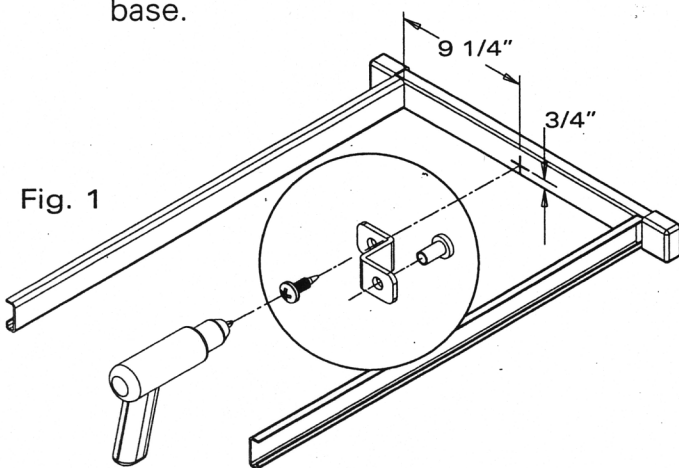

Fig. 1
- 2) Measure and mark the locations for the two Z-Brackets. See Fig. 1.